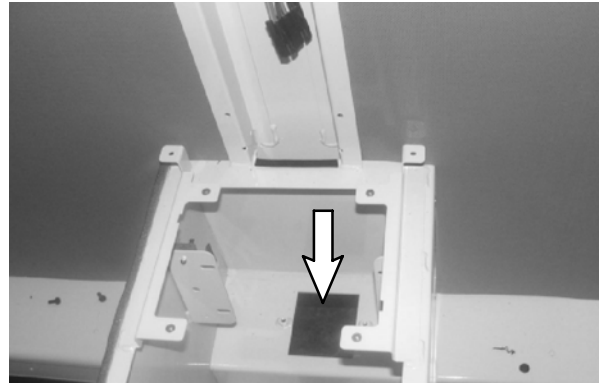

FIG. 9
14. Route the arrow stick cable assembly (2) down to the hole at the bottom of the cab. Use cable ties (12) to secure the arrow stick cable assembly to the wire harness. Refer to Fig. 9.